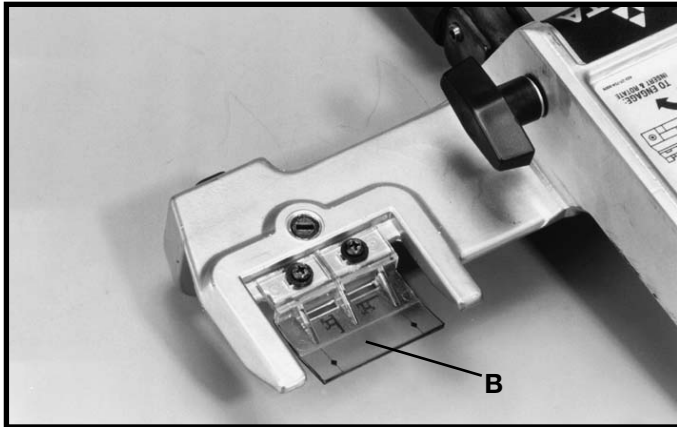

Fig. 69
2. Fig. 69 illustrates the cursor (B) assembled to the Unifence body. Final adjustment to the cursor (B) will be made later.